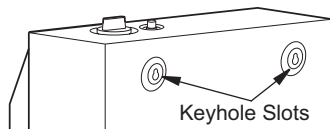

Figure 9 - Location of Keyhole Slots on Back Panel of Heater
1. Locate two keyhole slots on back panel of heater (see Figure 9).